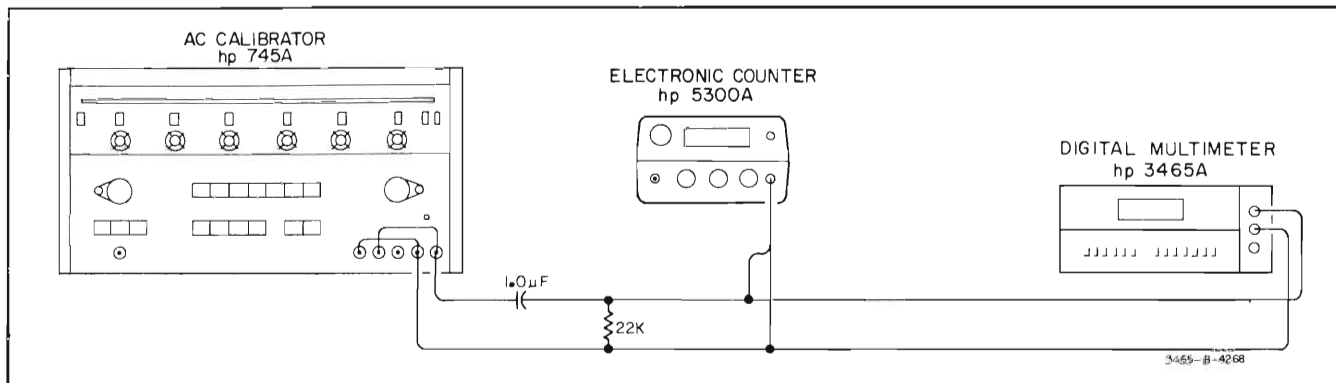

Figure 5-4. AC Normal-Mode Rejection Test.
a. Connect the test equipment as shown in Figure 5-4. Do not connect the Multimeter at this time.